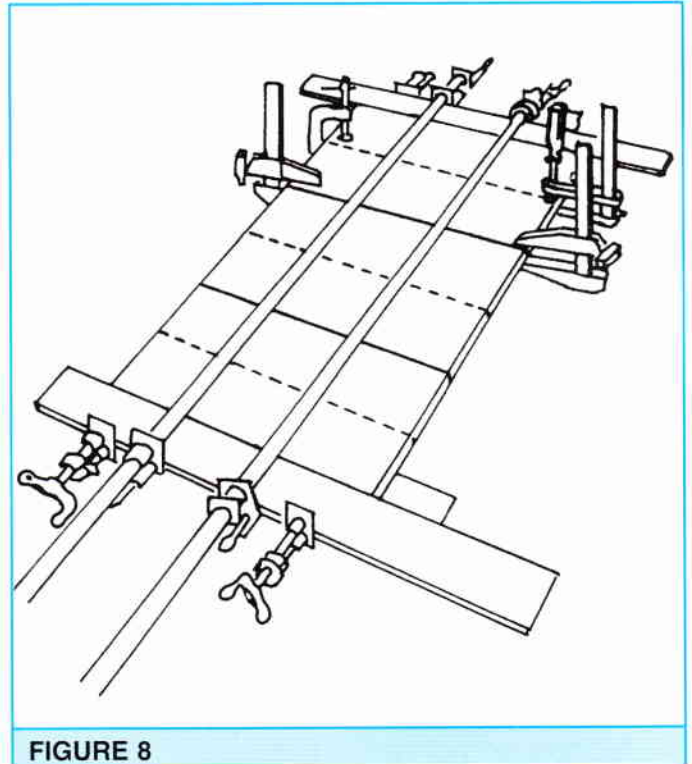

FIGURE 8
**Figure 8** shows a number of components being clamped simultaneously; note that extra clamps or blocks may be necessary to keep the components flat whilst drying. The false top is made from three widths of material, and the drawer false fronts from two.